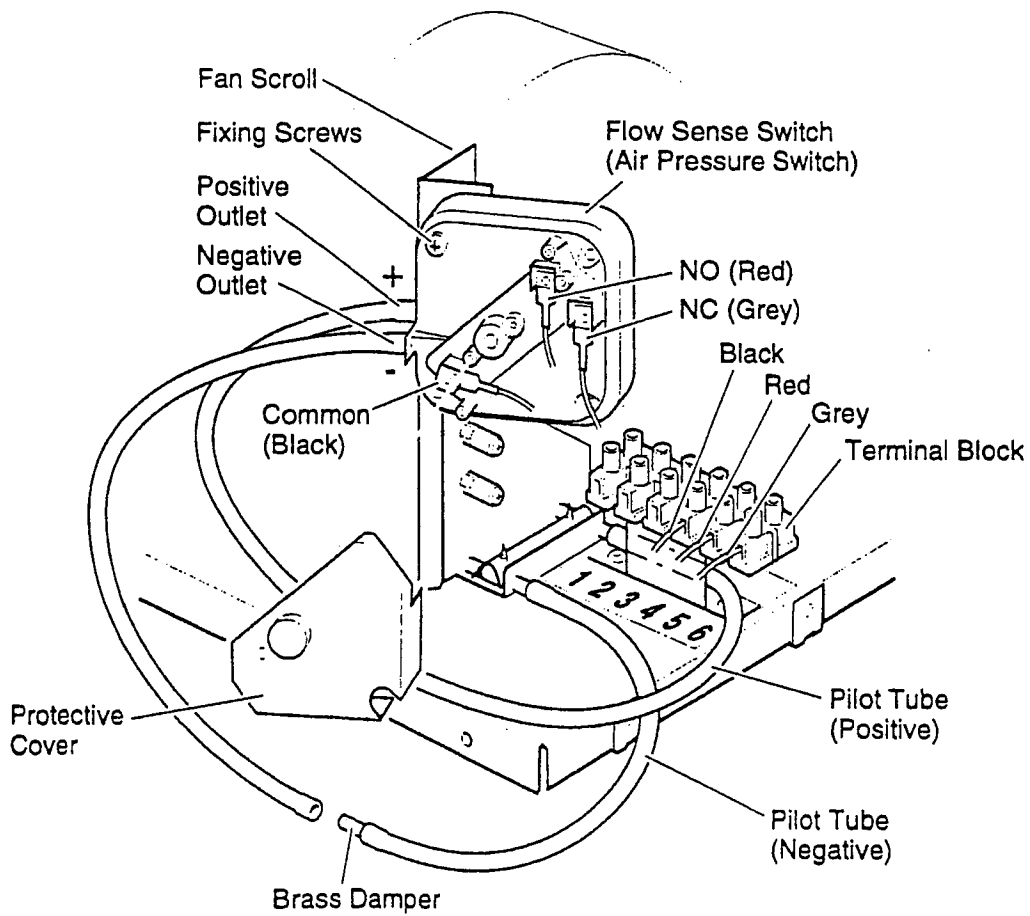

FIG. 20
- viii) TO REPLACE THE FLOW SENSE SWITCH: Ensure the electrical supply is switched off, remove terminal guard (four screws), fan cover (six screws) and deflector plate (three screws). Disconnect the three leads and the red and blue silicone tubes from the flow sense switch noting their positions (fig 20), remove and replace the switch.